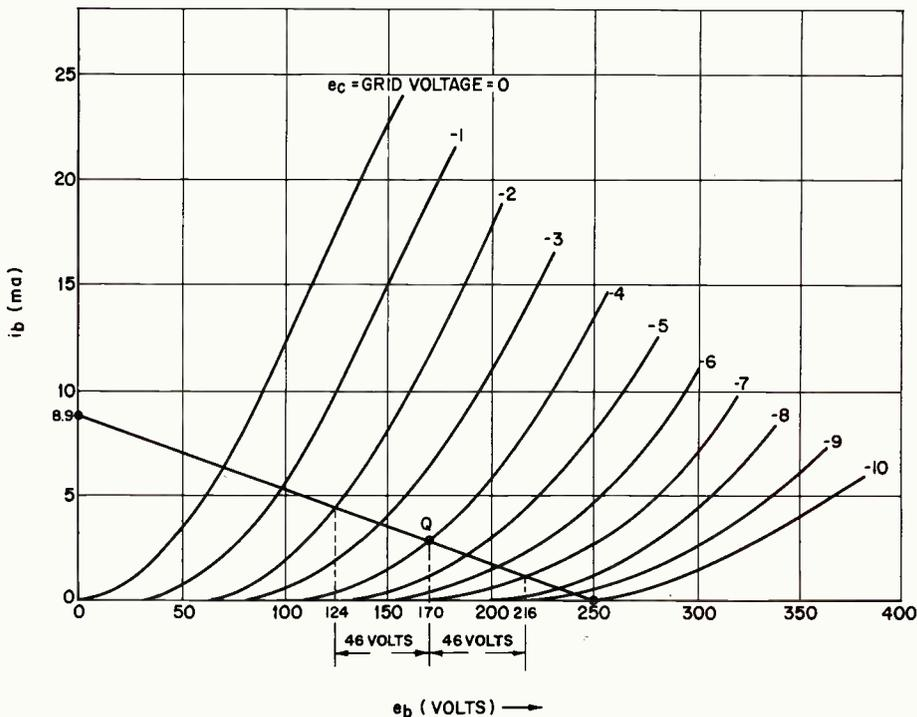
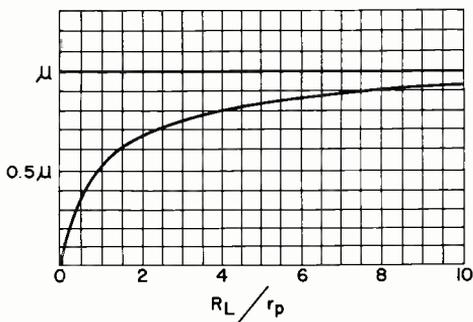

FIG. 7. Triode characteristics showing load line and correct operating point.
FIG. 8. Effect of load resistance on voltage amplification.
Place the edge of a ruler on the 250-volt mark on the plate voltage axis. Now rotate about this 250-volt mark until you find the proper Q point (no grid signal). The proper Q point is when, for a given swing in grid voltage above and below the bias, the plate voltage swings the same amount in each direction. When you have located the proper Q point, all that must be done to draw the load line is to place your ruler on the 250-volt mark and on the Q point and connect these two points. Extend the line over to the plate current axis. This is shown in Fig. 7. Where this load line crosses the i_b axis is our new plate current (8.9 ma). From this we can now calculate our load resistance. Since we know the plate supply voltage (250 volts) and the plate current (8.9 ma) we can solve for the load resistance. Using the formula $i_b = E_{bb}/R_l$, transposing, and solving for R_l gives $R_l = E_{bb}/i_b = 250 + .0089 = 28K$ ohms. As can be seen in
Fig. 7, for a 2-volt swing in grid voltage above and below the bias ($E_{CC} = -4$ volts), the plate voltage swings an equal amount in each direction. Now we have an amplifier that will operate properly so we can safely determine our amplifier's voltage amplification.
Fig. 7 shows how the load resistance affects the voltage amplification. The curve in Fig. 8 shows that the maximum possible voltage amplification obtainable from the single tube amplifier under discussion is equal to the amplification factor of the tube used. This value would be obtained at least theoretically, as the load resistance becomes infinite. Of course, the necessity of keeping the operating point fixed introduces practical difficulties when an attempt is made to increase the load resistance. Furthermore, the shunting effect of the capacities between tube electrodes and lead wires becomes more troublesome as the load resistance is increased. In practice, the load resistance, R_L , seldom exceeds a value ten times the
plate resistance, r_p , for triodes. The curve in Fig. 8 shows that the improvement in voltage amplification, obtainable by increasing the load resistance, is relatively small after the load resistance is four or five times the plate resistance.
From Fig. 7 it is apparent that making the grid more negative than the bias voltage (-4 volts) causes: (1) plate current to decrease; (2) plate voltage to increase.
The voltage amplification of the simple amplifier of Fig. 2 can be determined from a graphical analysis of the type shown in Fig. 7.